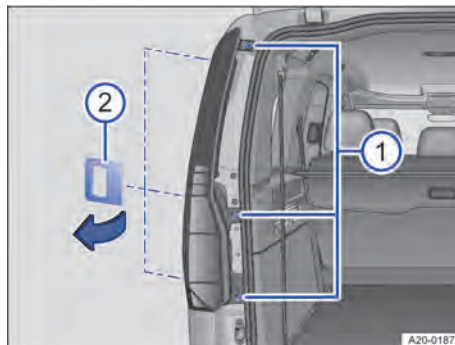

Fig. 173 At the rear left side of the vehicle: removing the bulb body.
4. Undo three screws with a screwdriver → Fig. 173 ①. Insert a suitable interchangeable blade if necessary.
5. Pry the bulb body out of the holder from top to bottom using the auxiliary tool → Fig. 173 ②.
5. Insert the tail light cluster into the opening in the body and carefully press into the holder → Fig. 173.
6. Tighten the securing screws → Fig. 173 ①.